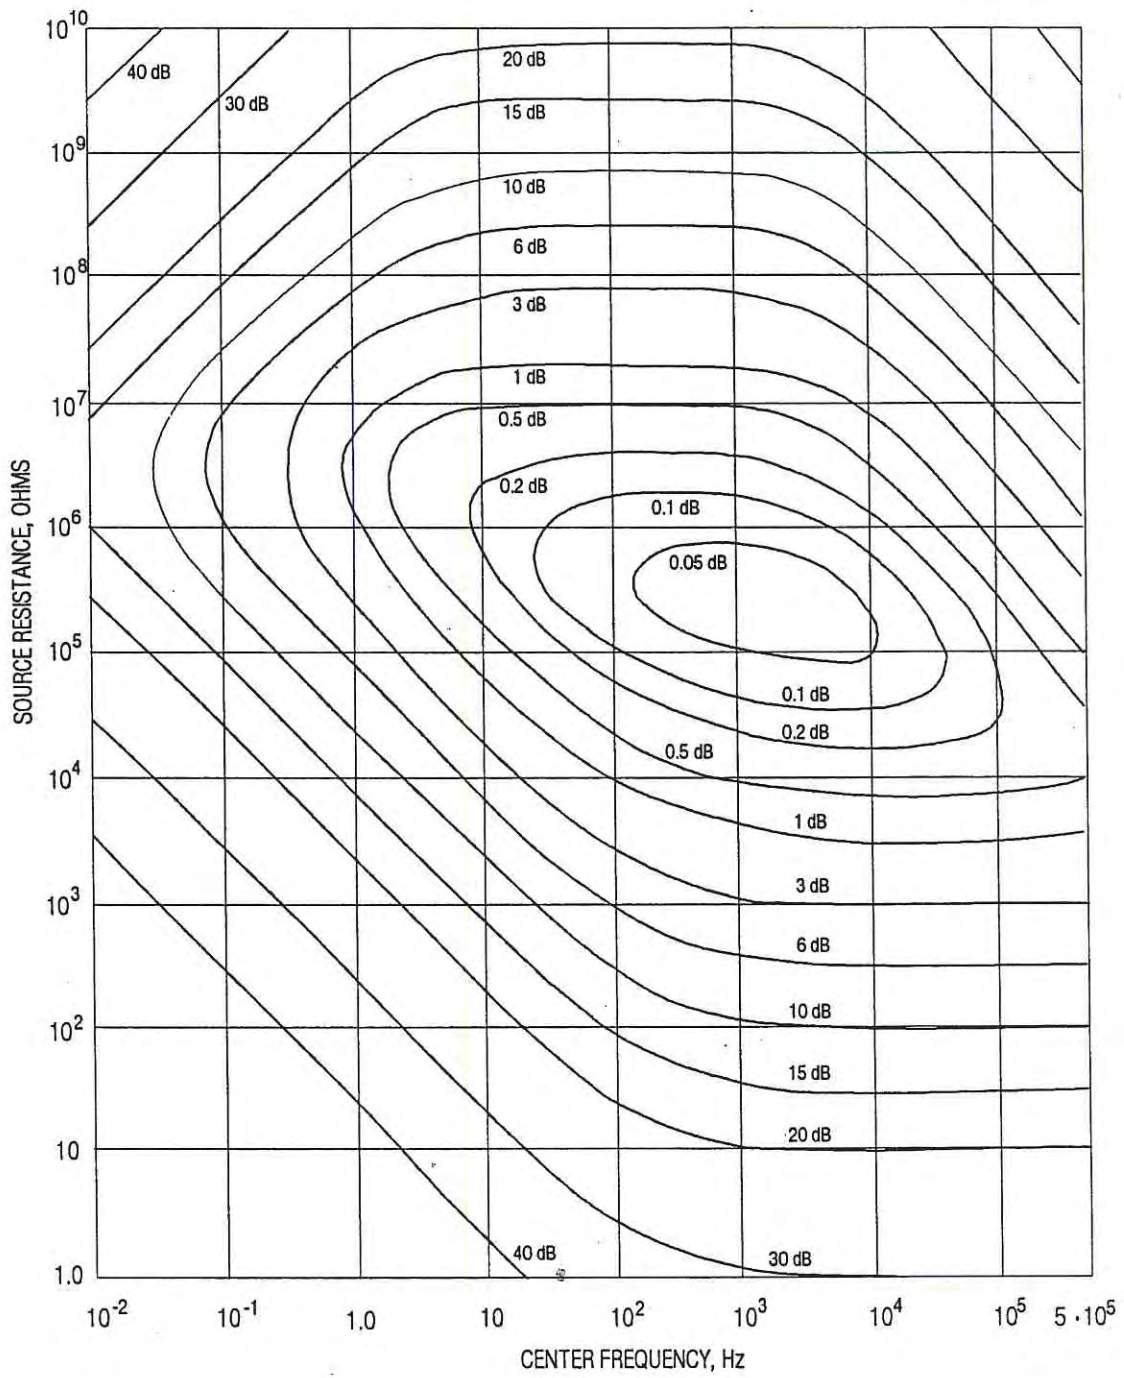

Figure 3-6. TYPICAL NOISE-FIGURE CONTOURS FOR MODEL 117, MODEL 116 (DIRECT) & MODEL 119 (DIRECT)
Each amplifier has its own characteristic noise figure, which varies as a function of frequency and source resistance. These figures are obtained experimentally and plotted graphically. Figures 3-6 through 3-11 include typical sets of noise figure contours for the Models 116,
Notice from these equations that the bandwidth must be specified; usually determined by the external circuitry and/or the amplifier bandwidth. Figures 3-6 through 3-10 include response curves of the preamplifiers from which the bandwidth may be obtained (in the direct modes, the bandwidth is wider than the widest Tuned Amplifier Bandwidth). However, a more interesting place to determine noise level is at the output of the Tuned Amplifier. Because there is gain ahead of the Tuned Amplifier, its noise contribution referred to the input is negligible compared to that of the preamplifier. In computing the total equivalent input noise of the signal channel, the operator only need use a Δf as determined by the Selective Amplifier setting (with preamplifier limitations considered). Although the discussion of noise considerations is not complete, a simple example at this point illustrates the use of the foregoing equations and illustrates how a transformer can, on occasion, improve the signal-to-noise ratio.
From Figure 3-6, the noise figure for the Model 116 at a center frequency of 5 kHz and a source impedance of 10Ω is 20 dB. Substituting E and this NF into equation (3), we get:
With a transformer inserted between the signal source and the amplifier input we can increase the effective source impedance to a value that reduces the noise figure to less than 0.1 dB. From Figure 3-6, the source resistance should be about $200 \text{ k}\Omega$. The transformer turns ratio required for this impedance increase is $R_2/R_1 = 141$. The thermal source noise at the amplifier input is equal to the noise generated by the 10Ω source multiplied by the turns ratio. With a noise figure near zero, the total equivalent rms input noise is also equal to the noise generated by the 10Ω source multiplied by the turns ratio, = $1.25 \mu\text{V}$ rms. Although the numerical value of equivalent input noise is much larger than before, the signal-to-noise ratio is substantially increased. This can be seen by considering all of the transformed source signal voltage as appearing at the amplifier input terminals, possible because the Model 116's input resistance is much larger than the $200 \text{ k}\Omega$ presented by the transformer; the signal-to-noise ratio is equal to the maximum possible Value: $e_{\text{sig}}/(E \times \text{antilog NF}/20) = e_{\text{sig}}/E$, the noise contributed by the amplifier being negligible under the "near zero" noise figure conditions. In this example the transformer increases the signal-to-noise ratio by a factor of 10.